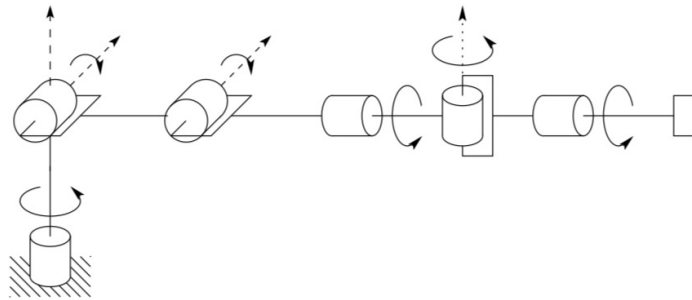

Fig. 3.29 Elbow manipulator with spherical wrist
8. Attach a spherical wrist to the three-link articulated manipulator of Problem 3-6. as shown in Figure 3.29. Derive the forward kinematic equations for this manipulator.